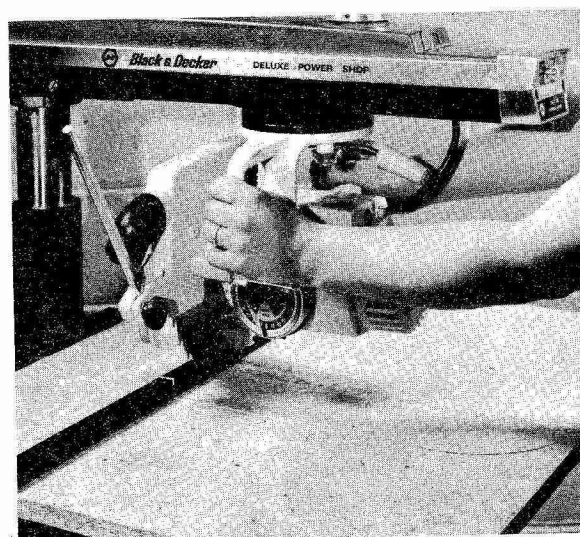

FIGURE 3
- f Once the $\frac{1}{4}$ turn cut is complete lock the yoke lock with your right hand and with the blade still revolving push the yoke back on the track until the blade reaches the fence. This will cut the rip through in the center of the table. **Stop Motor.** (Refer to fig. 3)